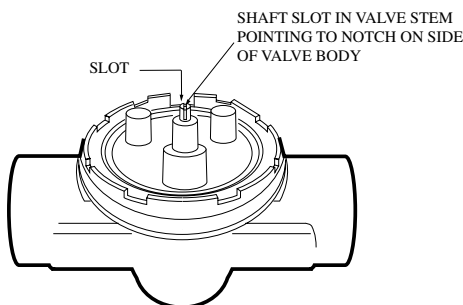

Fig. 6. Slot position.
2. Place the valve on the pipe. **Rotate valve stem** so that shaft slot points to notch in the side of the body (90° to flow directions.) See Fig. 6. This protects the plug inside the valve by removing it from the seat.
1. Rotate valve stem so that shaft slot points to notch on side of valve body, per Fig. 6.